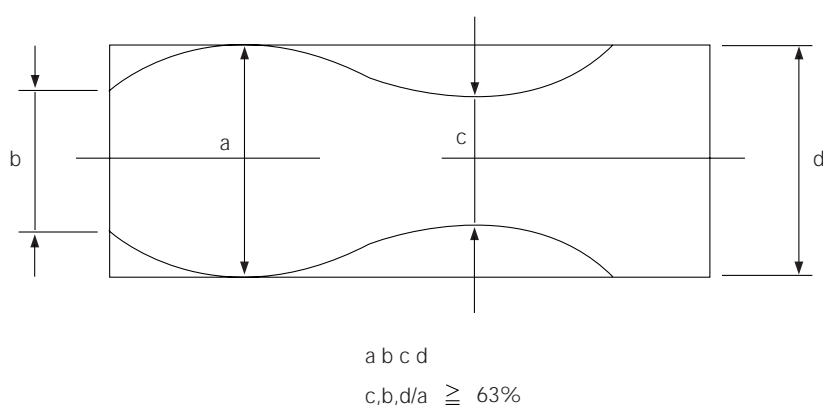

Fig. 6-11 Envelope Waveform Adjustment
- 3) Make sure the video envelope waveform (at its minimum) meets the specification shown in Fig. 6-11.